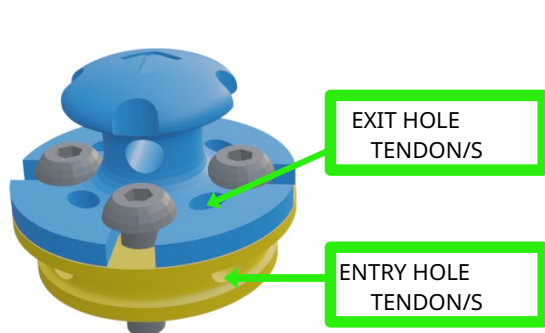

Figure 5.56: Insertion of flexion end
3. Insert the end (or ends) into the bottom right hole of the flexion winder and let it come out of the corresponding hole of the extension winder (figure 5.56), ensure that the amount of tendon that came out of the hole is long enough to prevent it from slipping out again.